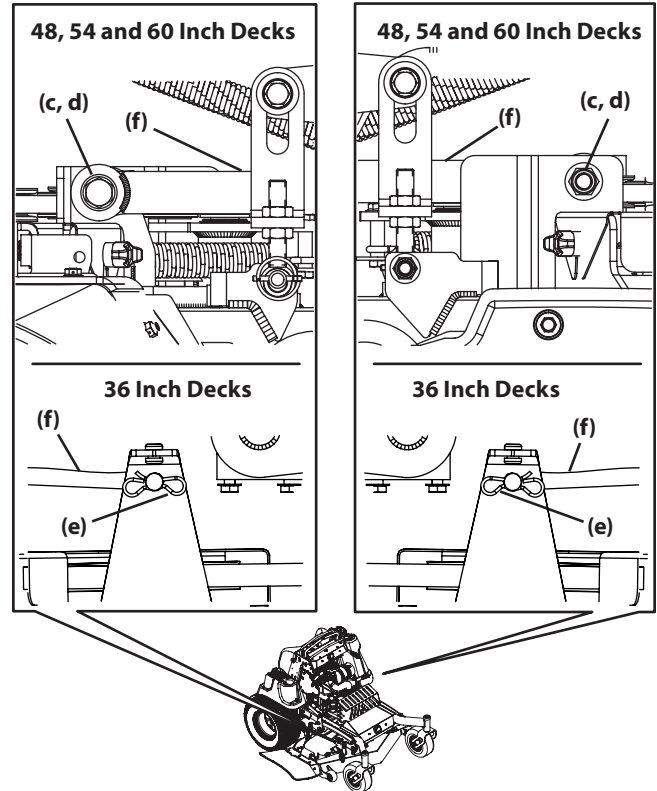

Figure 30
6. Remove the hex screws (g) flange lock nuts (d) (48, 54, and 60 inch decks) or the bow tie clips (e) (36 inch decks) securing the front deck control rods (f) to the deck (Figure 30).